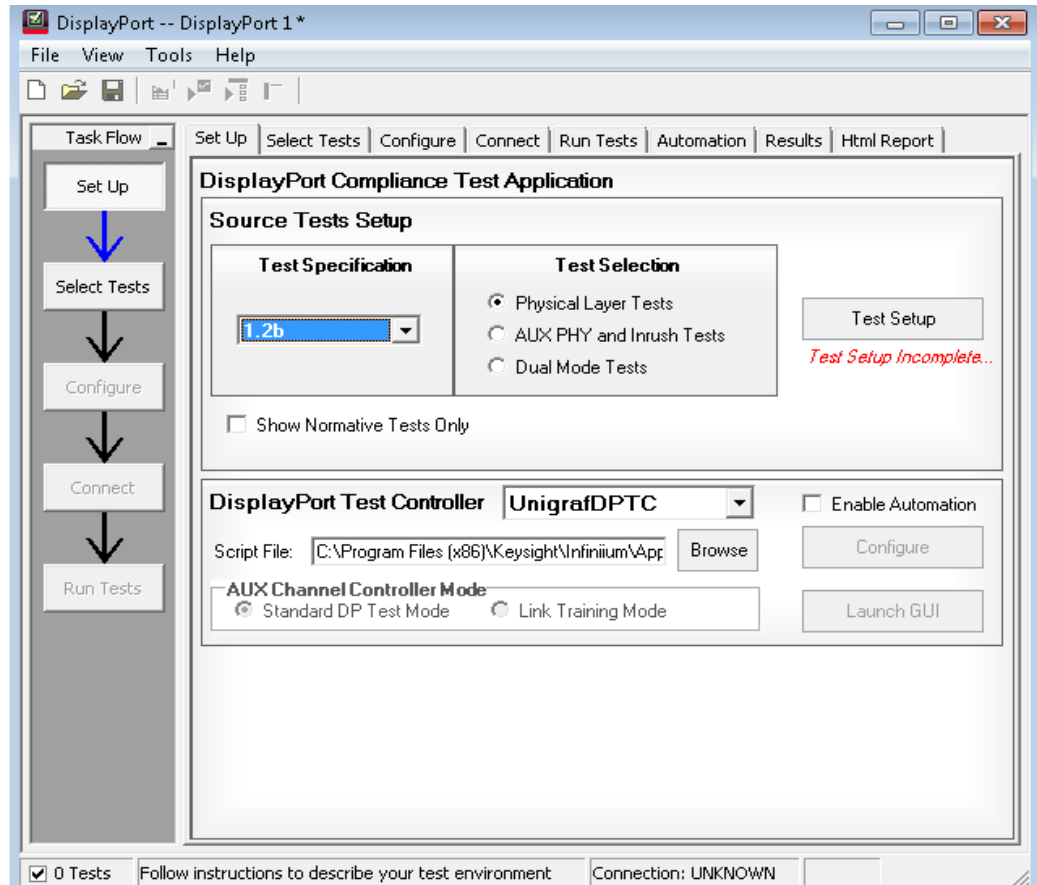

Figure 7 Set Up tab on the DisplayPort Compliance Test App
- 3 On the DisplayPort Compliance Test Application, click the **Set Up** tab (see Figure 7)